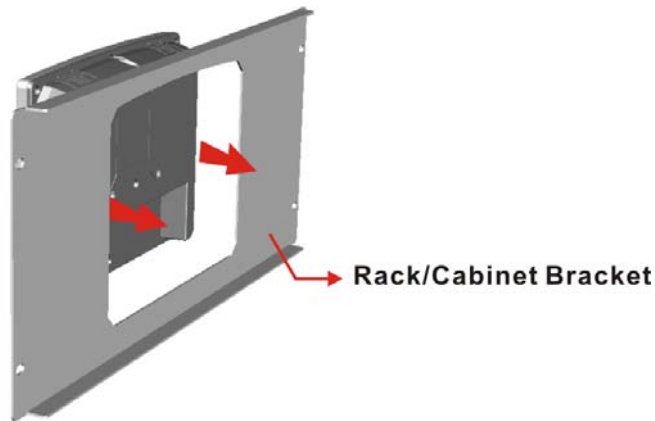

Figure 3-19: The Rack/Cabinet Bracket
Step 1: Slide the rear chassis of the AFL-F08A-N270 through the rack/cabinet bracket until the aluminum frame is flush against the front of the bracket (**Figure 3-19**).